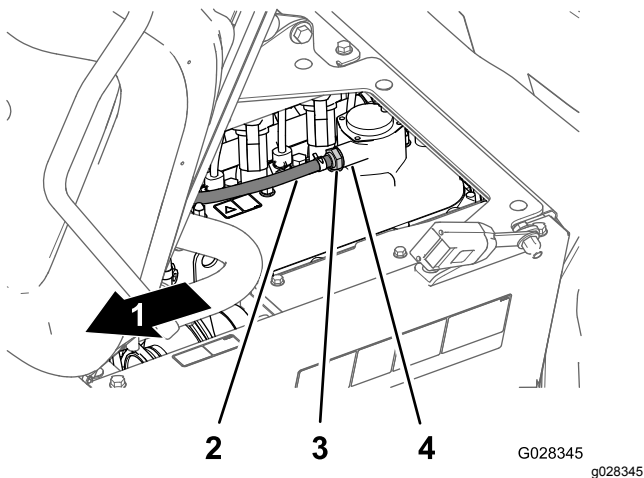

Figure 60
4. Insert the PCV valve until it is fully seated in the seal for the valve cover fitting (Figure 60).
2. Remove the PCV valve from the fitting of the valve cover (Figure 60).
Note: If the internal restrictor of the valve rattles, the PCV valve is servicable; If the internal restrictor is not free to rattle when shaken, replace the PCV valve (Figure 60).